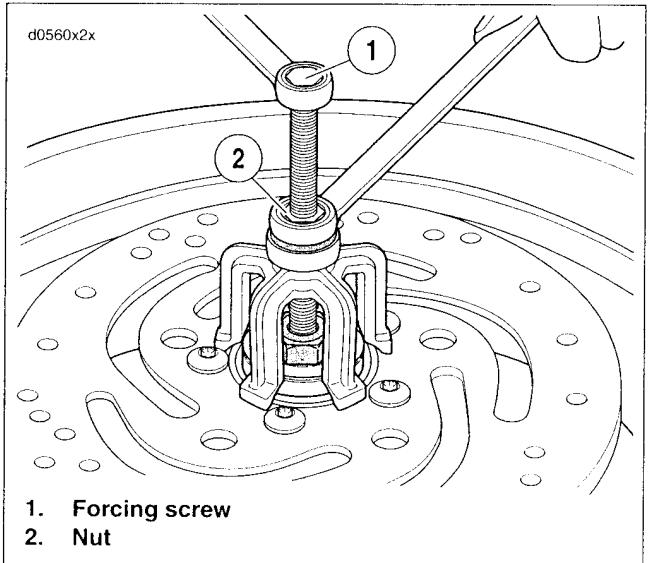

Figure 2-15. Remove Bearing
3. Hold end of forcing screw (1) and turn collet (6) to expand edges of collet.
4. See Figure 2-15. When expanded collet has gripped bearing edges, hold end of forcing screw (1) and turn the nut (2) to remove bearing from wheel.